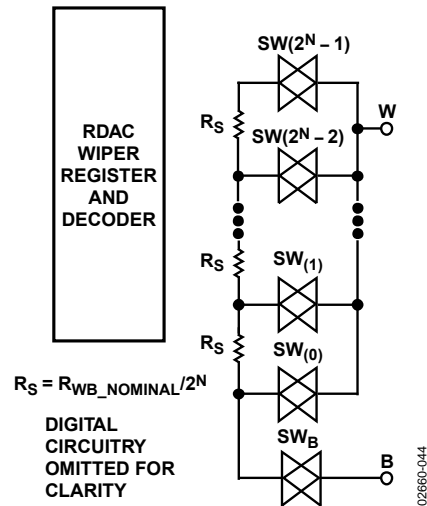

Figure 32. Equivalent RDAC Structure
The RDAC contains multiple strings of equal resistor segments with an array of analog switches that acts as the wiper connection. The number of positions is the resolution of the device. The ADN2850 has 1024 connection points, allowing it to provide better than 0.1% setability resolution. Figure 32 shows an equivalent structure of the connections among the three terminals of the RDAC. The SWB is always on, while the switches, SW(0) to SW(2N - 1), are on one at a time, depending on the resistance position decoded from the data bits. Because the switch is not ideal, there is a 30 Ω wiper resistance, Rw. Wiper resistance is a function of supply voltage and temperature. The lower the supply voltage or the higher the temperature, the higher the resulting wiper resistance. Users should be aware of the wiper resistance dynamics, if accurate prediction of the output resistance is needed.
The 10-bit data-word in the RDAC latch is decoded to select one of the 1024 possible settings. The following description provides the calculation of resistance,  $R_{WB}$ , at different codes of a 25 k $\Omega$  part. The first connection of the wiper starts at Terminal B for Data 0x000.  $R_{WB}(0)$  is 30  $\Omega$  because of the wiper resistance, and it is independent of the nominal resistance. The second connection is the first tap point where  $R_{WB}(1)$  becomes 24.4  $\Omega$  + 30  $\Omega$  = 54.4  $\Omega$  for Data 0x001. The third connection is the next tap point representing  $R_{WB}(2)$  = 48.8  $\Omega$  + 30  $\Omega$  = 78.8  $\Omega$  for Data 0x002, and so on. Each LSB data value increase moves the wiper up the resistor ladder until the last tap point is reached at  $R_{WB}(1023)$  = 25006  $\Omega$ . See Figure 32 for a simplified diagram of the equivalent RDAC circuit.